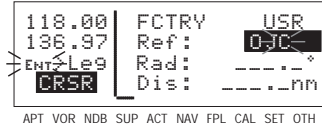

Figure 4-91
6. Use the right inner and outer knobs to select the identifier of the desired reference waypoint (figure 4-91).